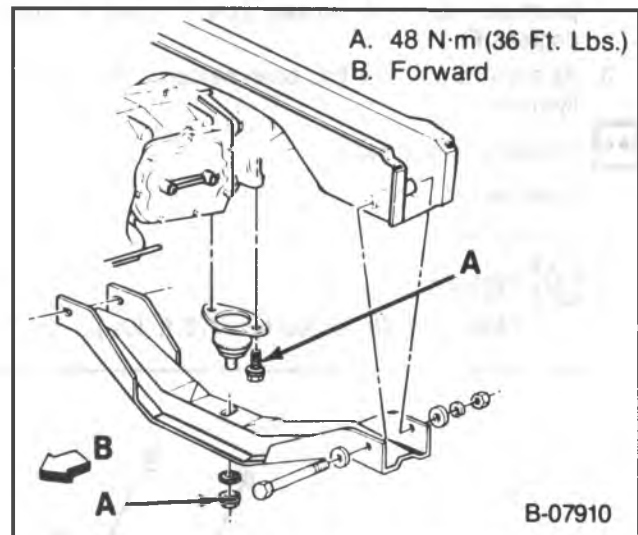

Figure 37 — Rear Engine Mounting
↔ Remove or Disconnect (Figure 37)
↔ Install or Connect (Figure 37)
- Fasteners to specifications. Refer to figure 37.